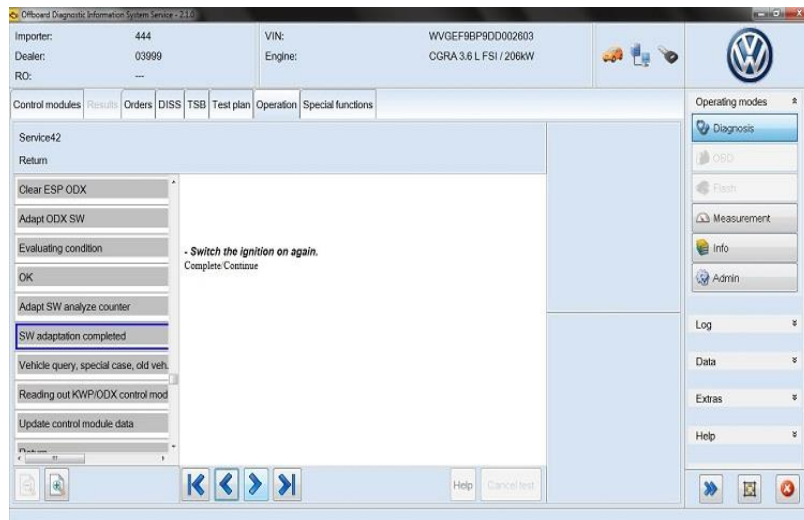

Figure 9
15. When prompted, switch the ignition ON (Figure 9).